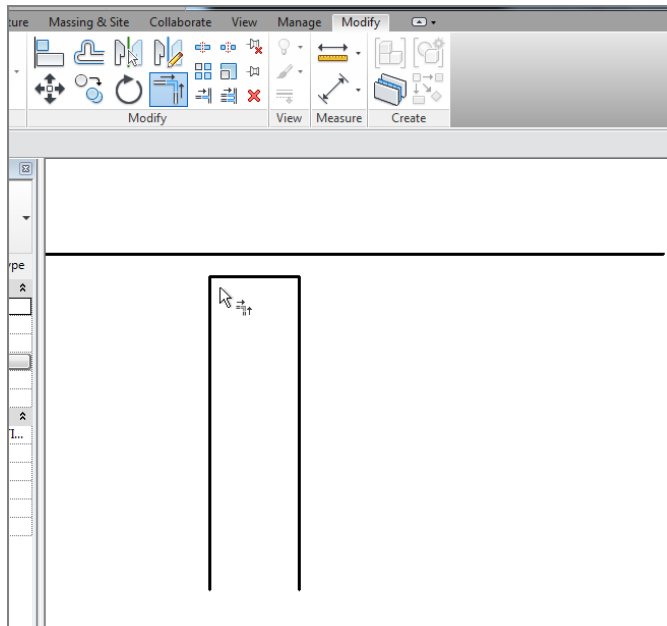

FIGURE 12.56: Trimming the corners
18. Click the Trim/Extend To Corner button on the Modify tab, as shown in Figure 12.56.
19. Trim the edges of the top of the wall (see Figure 12.56).